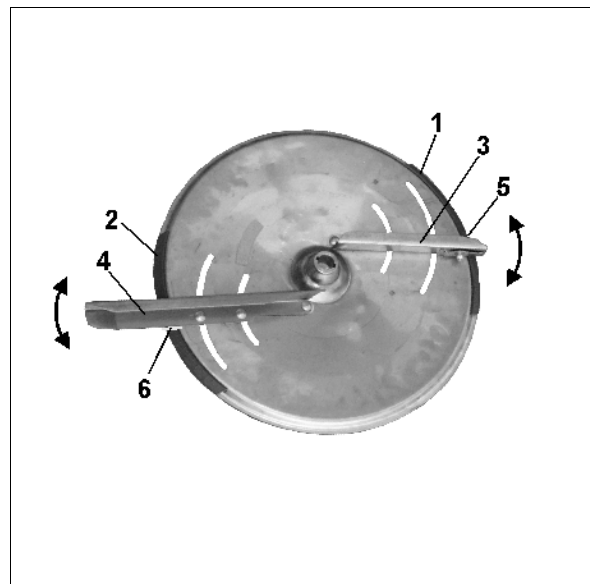

Fig. 33
For the accurate tool less setting of the individual spreading vane position two different unmistakable scales (Fig. 33/1 and Fig. 33/2) are arranged on every individual spreading disc.
The scale (Fig. 33/1) with the figure from 5 to 28 refers to the shorter spreading vane (Fig. 33/3) and the scale (Fig. 33/2) with the figures from 35 to 55 refers to the longer spreading vane (Fig. 33/4).
Swivelling the spreading vanes to a higher figure on the scale (Fig. 33/1 or Fig. 33/2) results in an increase of the working width.
- Look for the scale figure for the position of the **short spreading vane** on scale (Fig. 33/1).
- Swivel the read off edge (Fig. 33/5) of the **short** vane (Fig. 33/3) on to the scale figure and **re-tighten the thumb nut firmly**.
- Look for the scale figure for the position of the **long** spreading vane on scale (Fig. 33/2) a.
- Swivel the read off edge (Fig. 33/6) of the **long** vane (Fig. 33/4) on to the scale figure and **re-tighten the thumb nut firmly**.